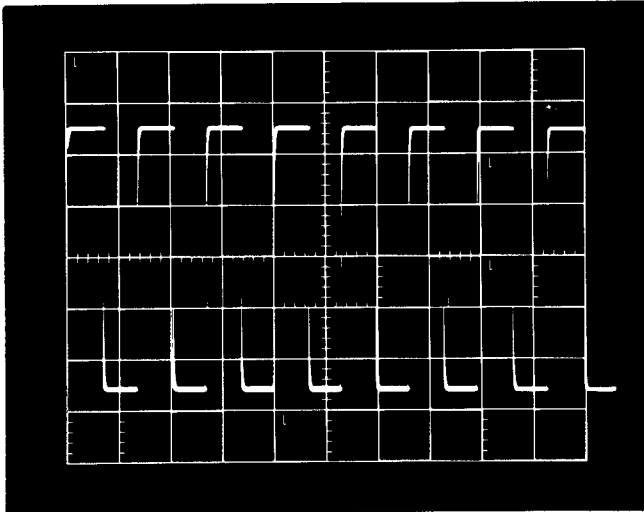

Fig. 5-1. Typical display showing optimum square wave response.
Requirement—Optimum square wave response on the leading edge. See Fig. 5-1.
- h. Check for optimum square wave response (minimum overshoot and rolloff). See Fig. 5-1.